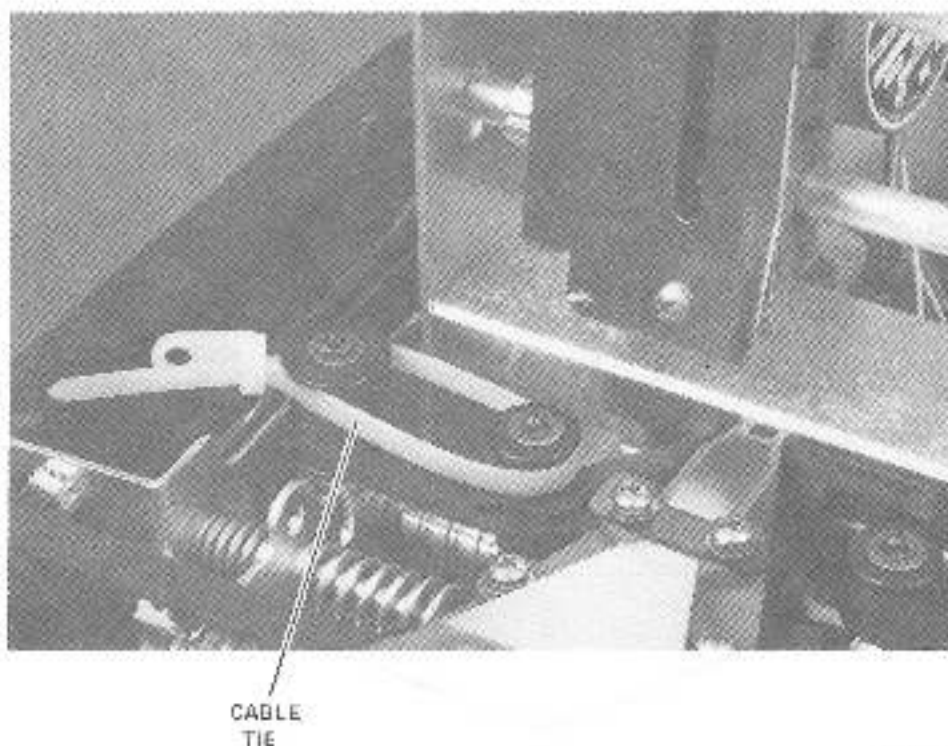

Figure 3-3 Cable Tie Location
8. Lift the LS120 top cover assembly and clip and remove the nylon cable tie securing the print head assembly (Figure 3-3). Remove the caution tag.